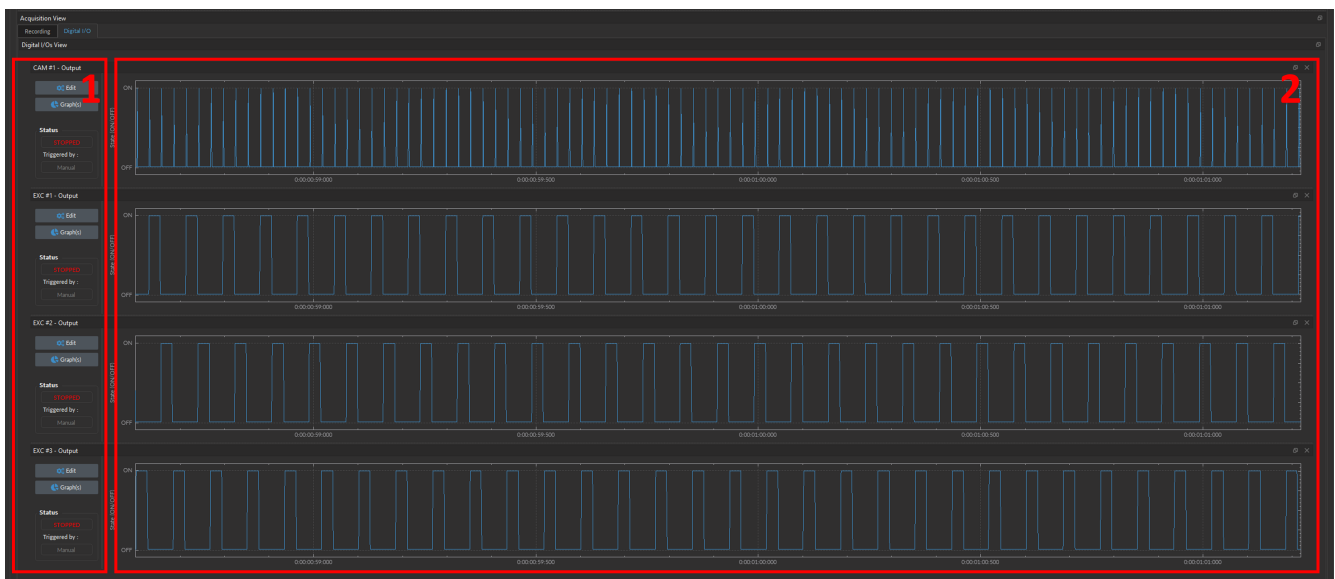

Figure 13.33: Digital I/O(s) View
The **Digital I/O(s) View** displays the active Digital channels, including **CAM** and **EXC** preset channels. Each Digital I/O channel includes: (1) a **Control Box** (Fig. 13.33, 1), and (2) a **Graph** (Fig. 13.33, 2).
The **Digital I/O** traces are displayed in the **Graph** box (Fig. 13.33, 2). Each channel graph includes the following components: